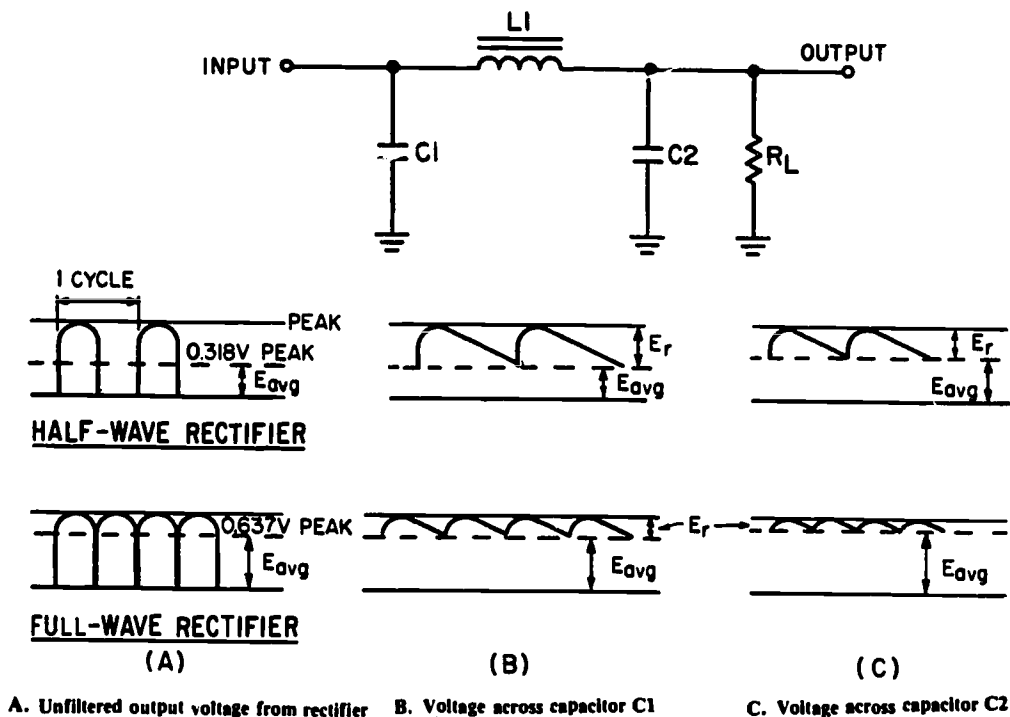

Fig 4-29. LC filter and waveforms.
Figure 4-29 shows an LC capacitor-input filter and associated wave forms. Both half-wave and full-wave rectifier circuits are used to provide the input. The wave forms shown in view (A) of the figure represent the unfiltered output from a typical rectifier circuit. Note that the average value of output voltage (E_{avg}), indicated by the dashed lines, for the half-wave rectifier is less than half the amplitude of the voltage peaks. The average value of output voltage (E_{avg}) for the full-wave rectifier is greater than half, but is still much less than the peak amplitude of the rectifier-output waveform. With no filter connected across the output of the rectifier circuit (which results in unfiltered output voltage), the wave form has a large value of pulsating component (ripple) as compared to the average (or d.c.) component.